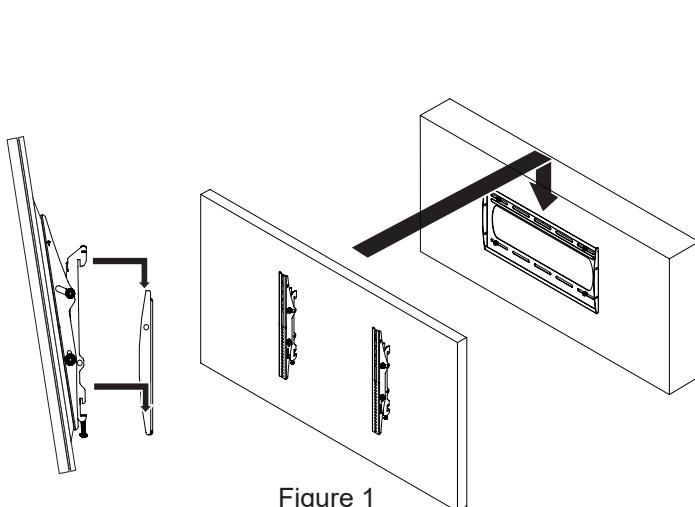

Figure 1
- 3) Mark the straw or toothpick $1/8"$ above the depth of the threaded insert, as shown in Figure 1.